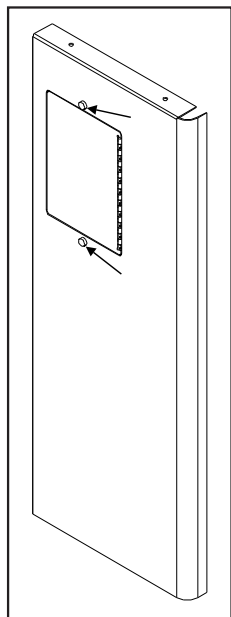

Figure 38: Right Panel - Front.
Place the circuit board control panel on the backside of the right surround panel so the hinge is on the outside and the top and bottom holes on the control panel line up with those on the surround. Attach using two (2) T-20 screws through the front of the surround into the circuit board control panel (see Figure 38).